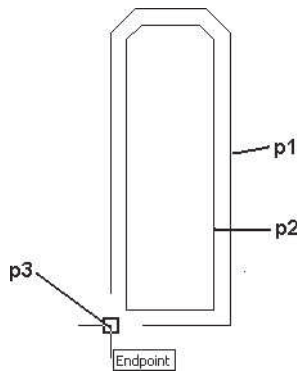

FIGURE 5.26 Selected polyline for profile
4. Select the polyline at **p1** as shown in Figure 5.26, right-click, and choose Convert To > Profile Definition. Respond to the workspace prompts as follows:
Select a closed polyline, spline, ellipse, or circle for an additional ring: (Select the line at **p2** as shown in Figure 5.26.)
Insertion Point or: *_endpoint of (Press Shift, right-click, and choose the Endpoint object snap; then select the end of the line at **p3** as shown in Figure 5.26.)*